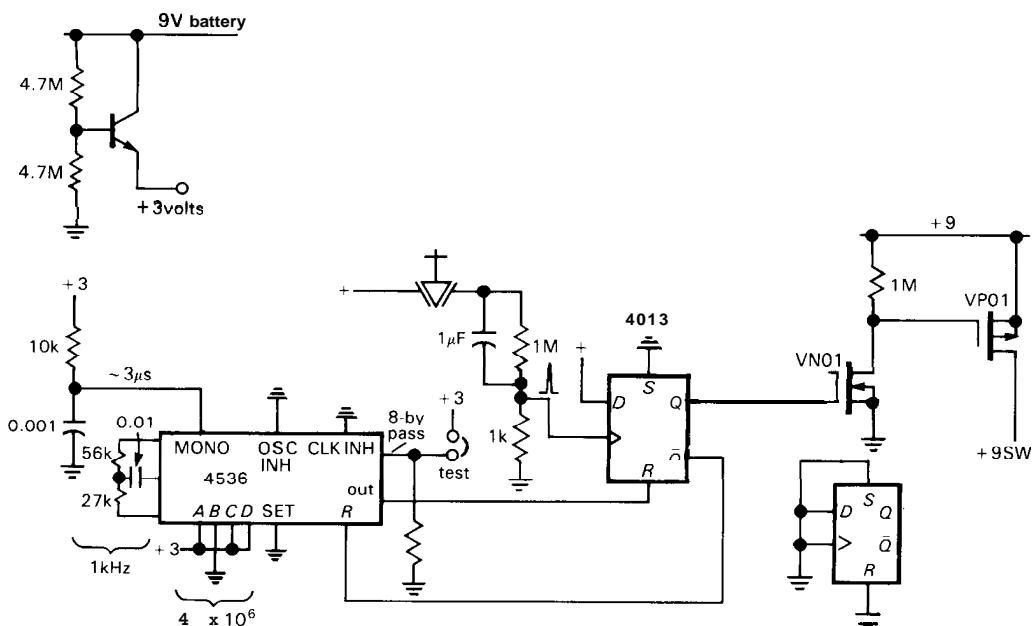

Figure 14.40. "An hour of power."
9. Time-out power switching. You can save a lot of power by making sure an instrument is turned off when no one is using it. Figure 14.40 shows a straightforward CMOS **timeout** circuit that turns off the switched +9 volt power an hour after the instrument has been turned on. You might build this into a manual instrument (e.g., a multimeter). It uses a 4536 oscillator/divider/monostable to reset a flip-flop that controls the instrument power. The circuit runs on +3 volts to keep current drain below $5\mu\text{A}$. Using the monostable output prevents logic races and runt pulses, and the "8-bypass" line is used to test the circuit by shortening the delay to 15 seconds. MOS switches provide an easy interface with low quiescent power.